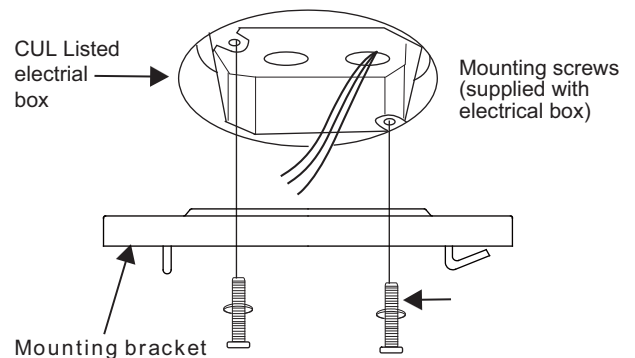

Figure 5
Step 2. Attach the mounting bracket to the outlet box with two screws and washers provided with the outlet box. Make sure the bracket is tight and secured. (Fig. 5)